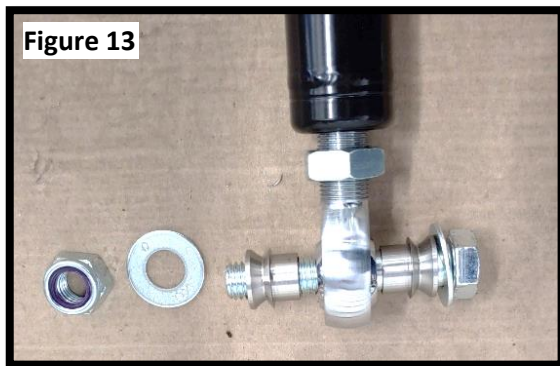

Figure 13
21. Insert high misalignment spacers into the rod end of the trailing arm and mount to the middle hole of the axle mount using 5/8" x 3.5" hardware. **(Figure 13)**